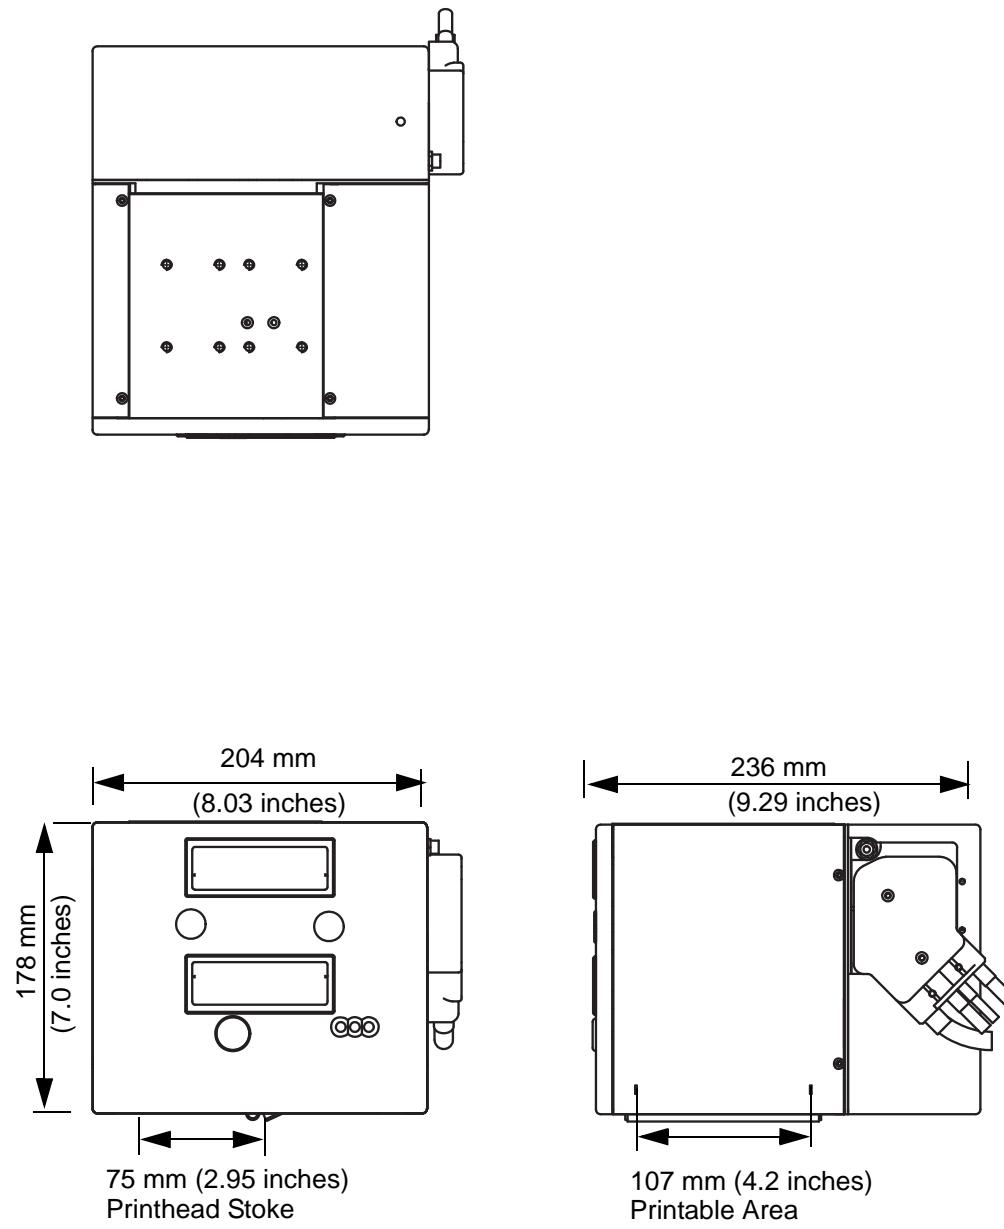

Figure 9-3: 107mm RH Printer Dimensions
Figure 9-3 shows the dimensions of the 107mm (RH) printer.